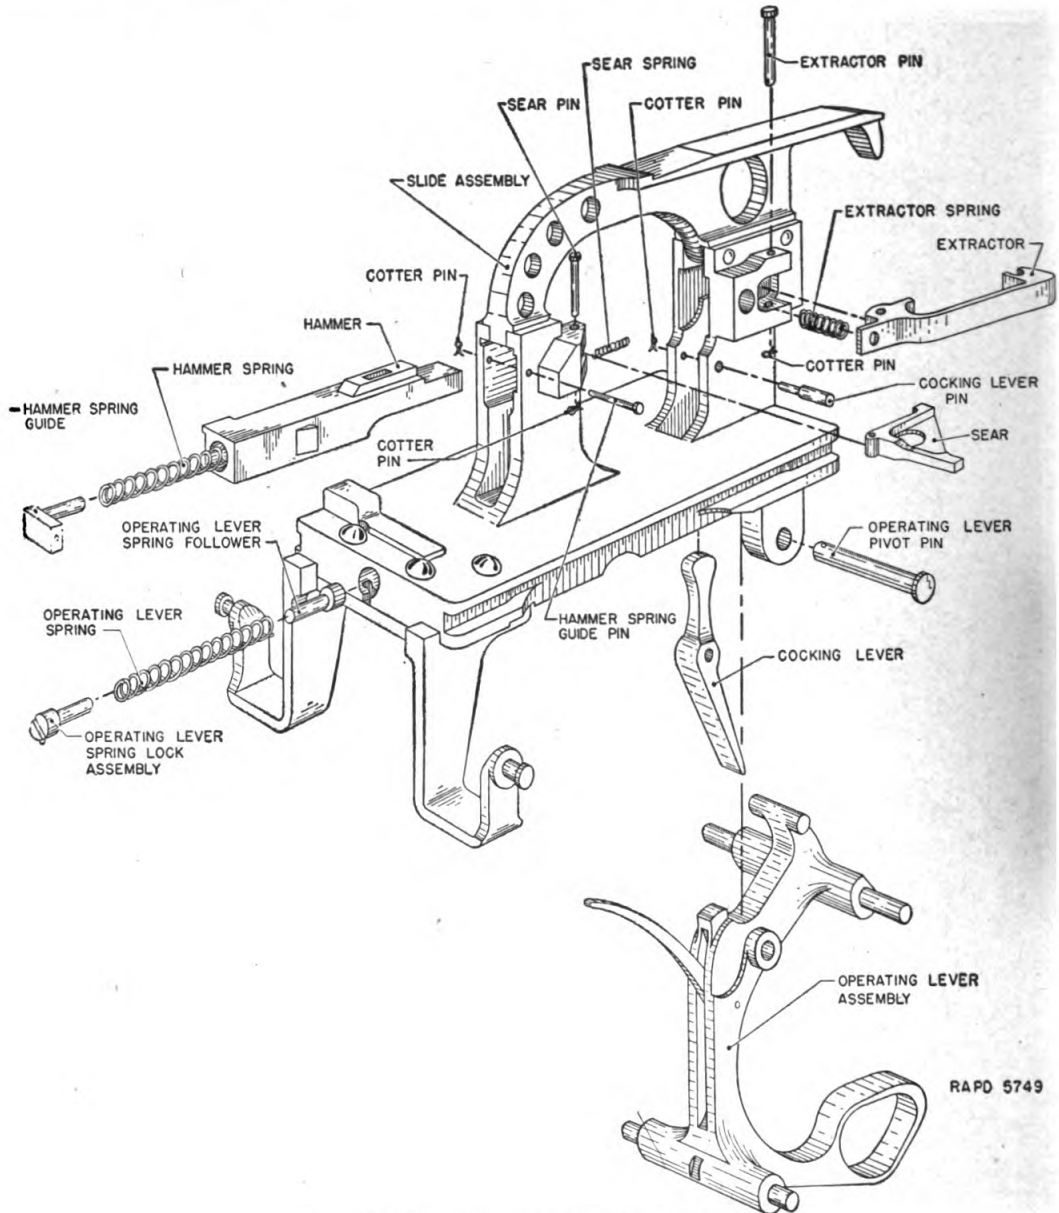

FIGURE 58.—Disassembly of lock frame.
**68. Disassembly of lock frame assembly** (fig. 58).—*a. Op-*